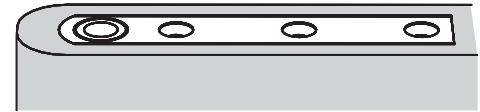

Figure 4
2. Install door portion of top pivot in door using three (3) 1/4-20 x 3/4" FHMS or #14 x 1-1/2" FHWS. (Figure 4) Refer to template PS30210.